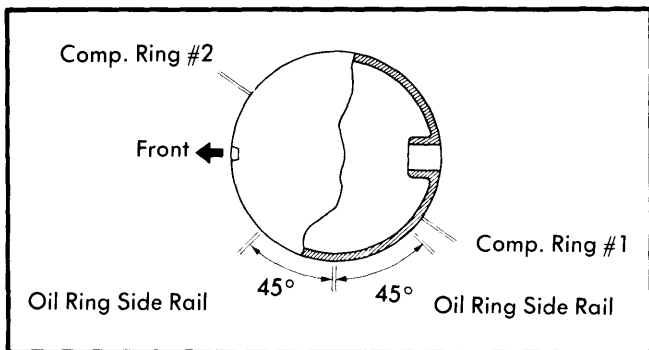

Fig. 4 Correct Piston Ring Gap Arrangement
**Installation** — Apply oil to piston and piston rings. Install compression rings so stamped code on ring faces upward. Position piston ring gaps as shown in Fig. 4. Using suitable ring compressor, install piston and rod assembly in cylinder. Make sure indent on piston faces forward.